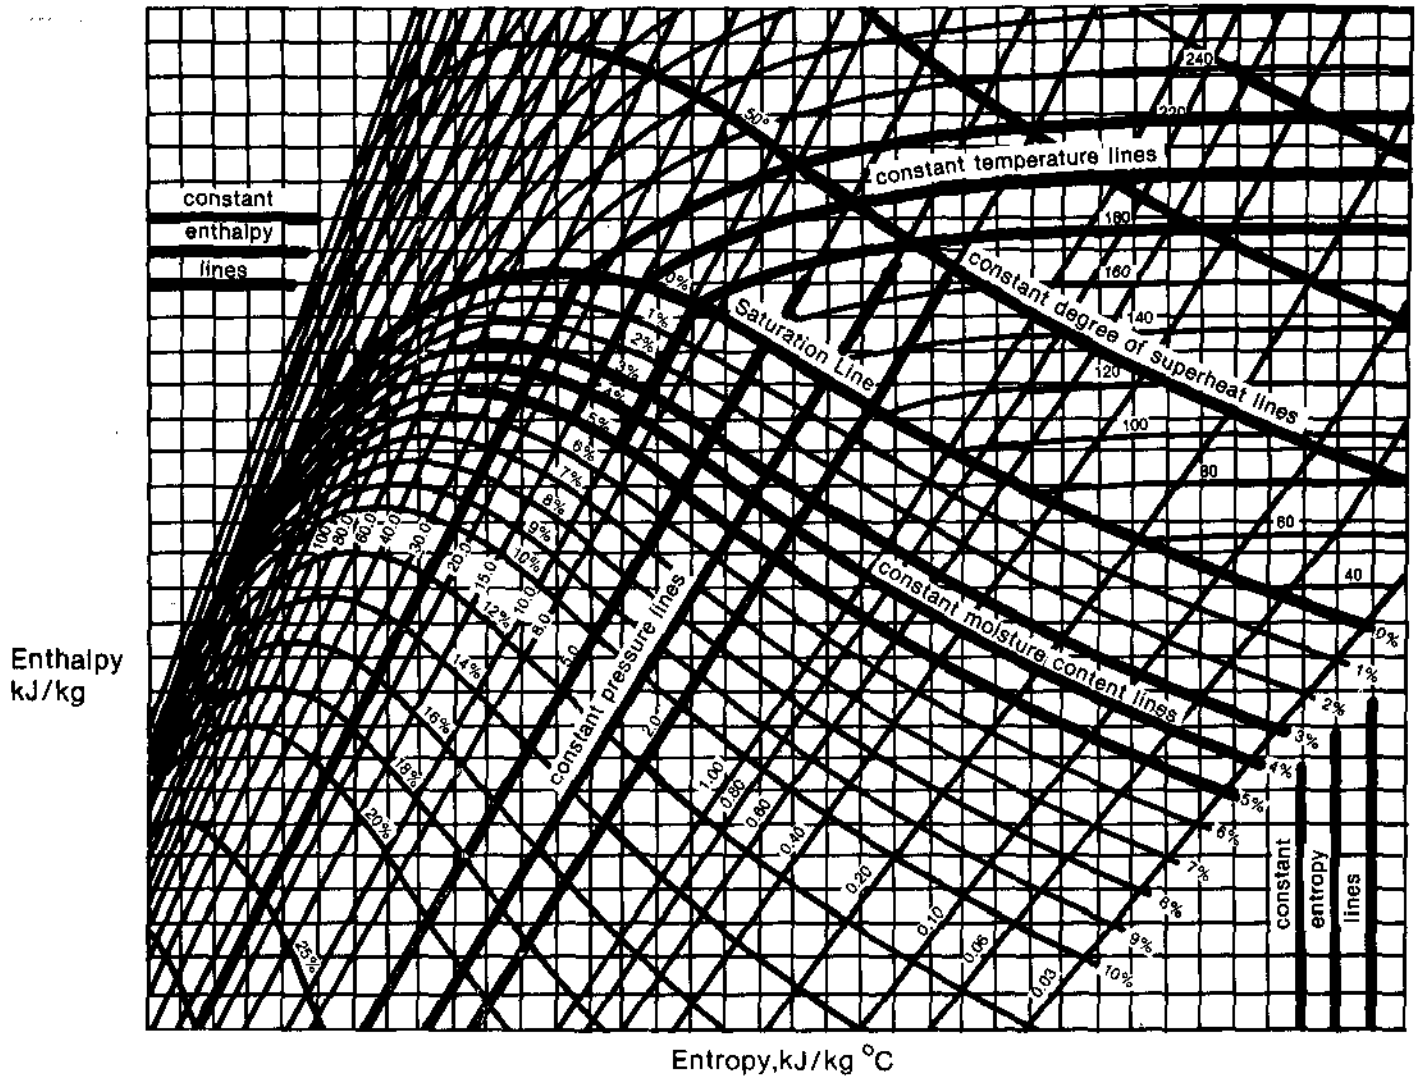

Figure 6.16
- 6.1) Your diagram should have the same shape and labels as Figure 6.16: